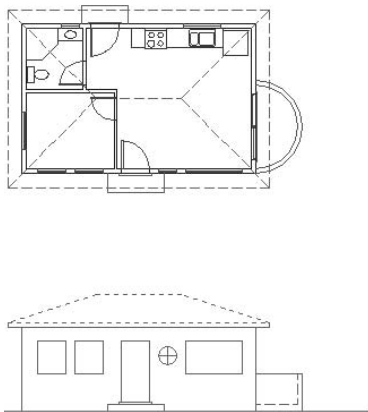

FIGURE 9.4: The roof's boundary is selected.
9. In the elevation view, click the middle of the roof area. The lines that form the boundary of the roof area ghost, forming an outline of the area to be hatched (see Figure 9.4).